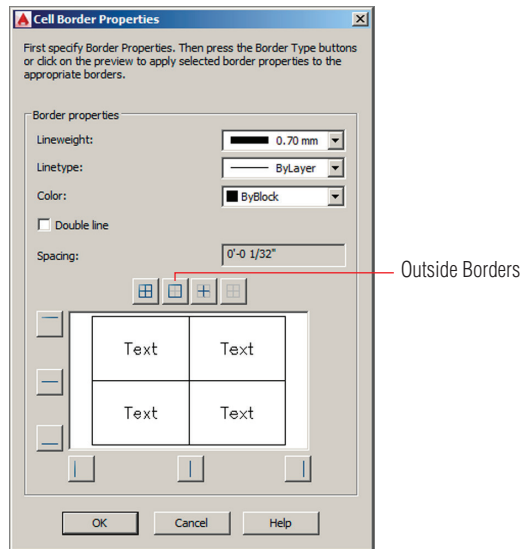

FIGURE 15.31 Changing cell border properties
12. Select cell ABC1, hold Shift, and click cell C6 to activate all the table's cells. Click the Edit Borders icon in the Cell Styles panel. Open the Lineweight drop-down menu and select 0.70 mm. Click the Outside Borders button to apply the properties and click OK (see Figure 15.31). A thicker line will appear around the outside borders of the table when the layout is plotted. Click outside the table to deselect it.